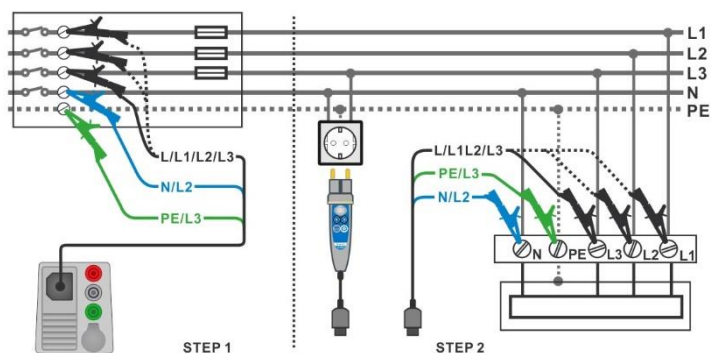

Figure 7.129: AUTO TT measurement
- ▶ Connect 3-wire test lead or Plug commander to the object under test, see **Figure 7.129**.